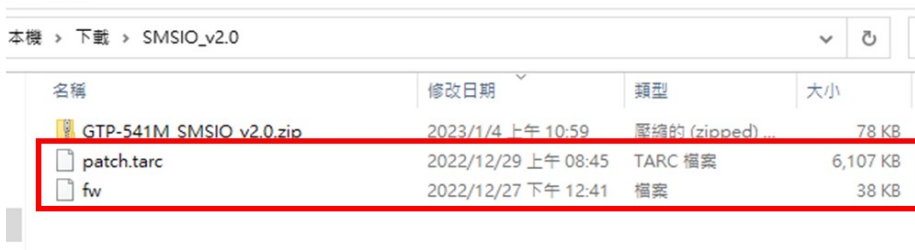

Figure 11.1.6
1. After downloading the update file, unzip it to get the firmware and patches, as shown in Figure 11.1.6.